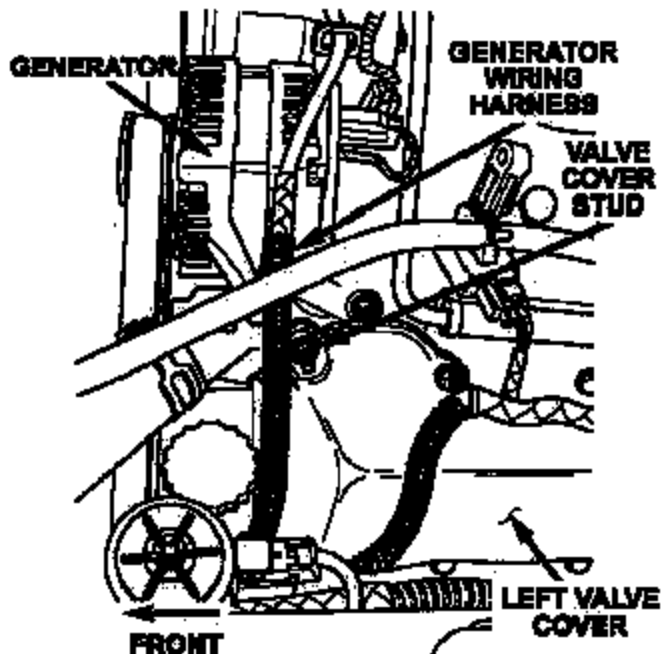

Figure 1
2. Inspect the generator wiring harness where it passes the valve cover stud located on the front left corner of the engine (Figure 1). If the wiring insulation is damaged from contact with the stud, wrap it with high quality electrical tape.
3. Install one of the protective caps over the stud on the left front corner of the valve cover (Figure 1).